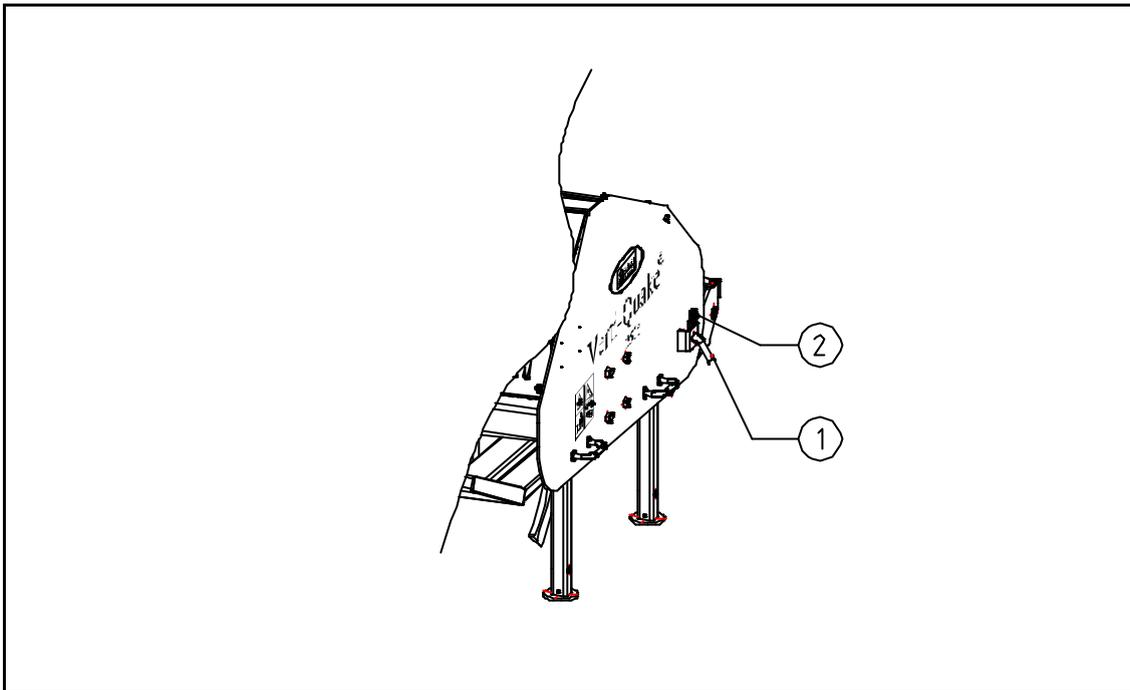

Fig. 12
6.0 ADJUSTING THE OPERATING DEPTH (Fig. 12)